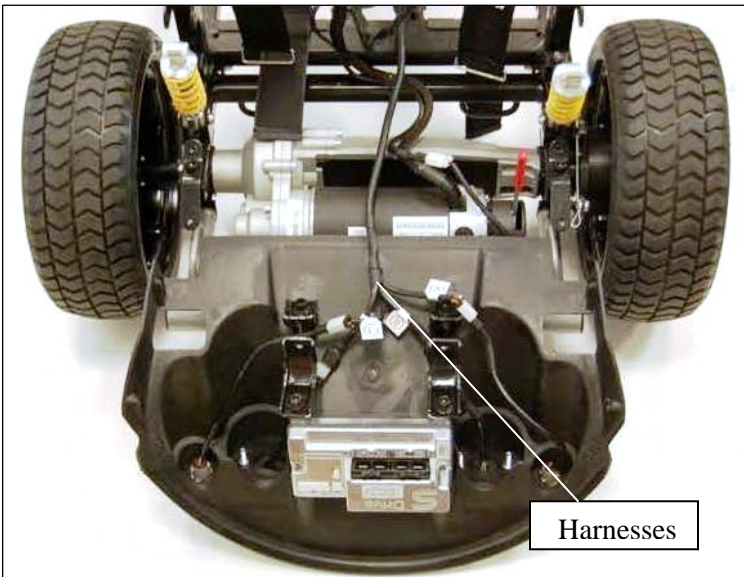

Figure 25. Rear Battery Compartment Panel
- 6) Slide the rear battery compartment panel upward over the shocks and lay the panel flat on the ground. See figure 25.